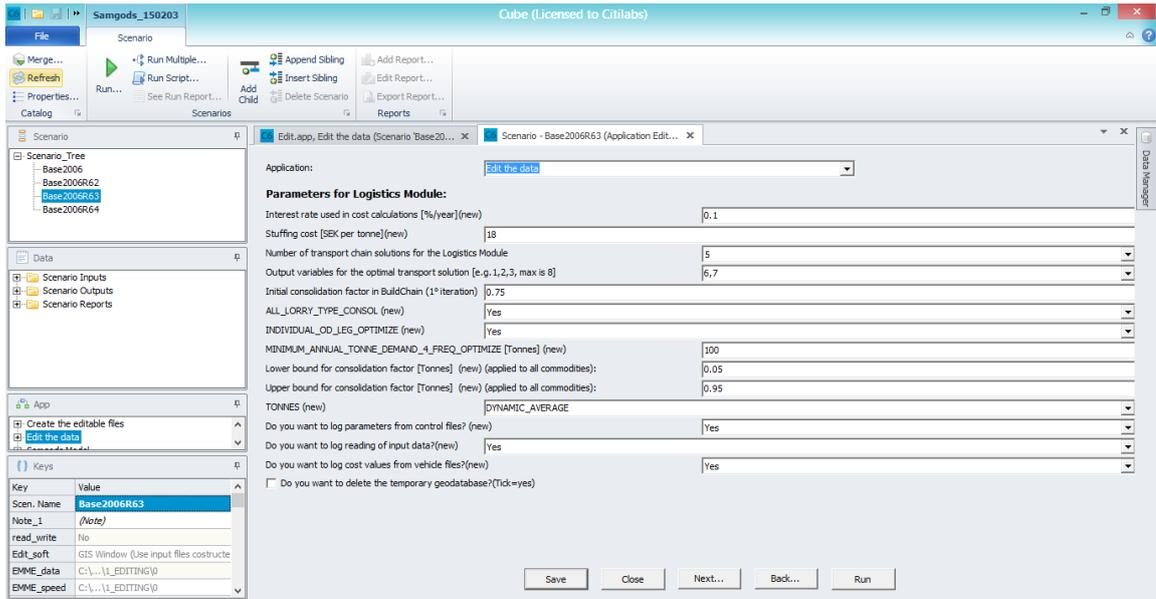

Figure 29 The first set of catalog keys for the Edit the data application.
The temporary geodatabase is now available in the scenario folder (located in the Scenario_Tree folder, see Table 1 in Section 1.5) with all the scenario data. To visualize the tables and the layers of the scenario, change the application from *Create the editable files* to *Edit the data* in the scenario manager window. In Figure 29, Figure 30 and Figure 31 the default values of the catalog keys are displayed. The first set of catalog keys (
Figure 29) lists the scenario parameters and each catalog key has an editing box (a box where a numerical value or label is expected), a scroll down menu, or a check box.
Figure 29) consists of tables and layers of scenario data. By clicking the “Edit...” button on the right, the data is opened in the correct format (i.e., a table in a database window or a layer in a GIS window). Descriptions of the keys and of how to use them for editing and displaying the data are given in Section 3.4.
Figure 29 and Figure 30.
Figure 29) lists the scenario parameters and each catalog key has an editing box (a box where a numerical value or label is expected), a scroll down menu, or a check box. The second set of
Figure 29) consists of tables and layers of scenario data. By clicking the “Edit...” button on the right, the data is opened in the correct format (i.e., a table in a database window or a layer in a GIS window). Another way to access the data is to use the Data Section window, where the scenario data can be found in the folder Scenario Inputs\Editable data.
- 6) Figure 29) (to lock the scenario, select “Yes)